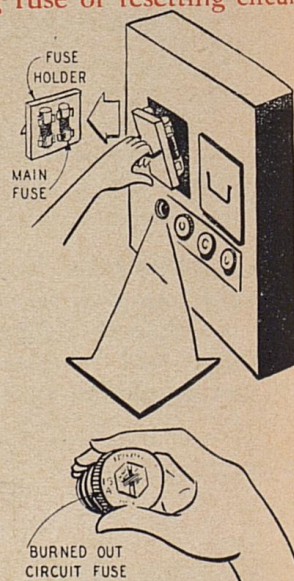

Fig. 2
1. **PLUG FUSES** are round and screw into the fuse socket. Fig. 2
4. **CARTRIDGE FUSES** are generally used for the main circuit - range and water heater. Fig. 2 Top.
- b. Open main switch. Fig. 2 or 3.
- d. Remove blown fuse. Fig. 2.